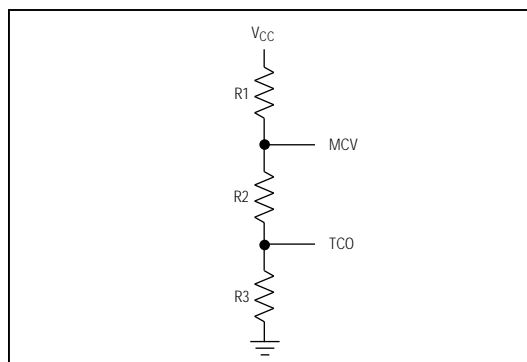
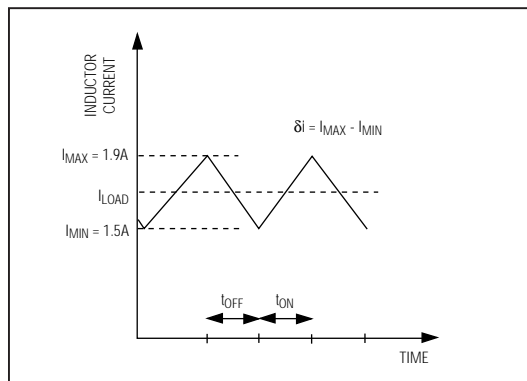

Figure 9. Resistor Configuration for MCV and TCO
Figure 10. Inductor-Current Waveform in Continuous-Conduction Mode
**7) Select Maximum Cell Voltage (MCV) and Temperature Cutoff (TCO).** The MCV and TCO can be selected with a resistor-divider combination (Figure 9). In our example, TCO has been set to +10°C, which corresponds to a voltage of 1.72V at the TS pin. The MCV for most fast-charge batteries can be set to about 1.9V. To minimize the current load on  $V_{CC}$ , choose  $R_1$  in the range of 20k $\Omega$  to 200k $\Omega$ . In this example, choose  $R_1 = 60.4k\Omega$ , then calculate  $R_3$  and  $R_2$  as follows:
In order to provide high currents with minimum ripple, the device must function in the continuous-conduction mode. Figure 10 shows a current waveform of an inductor in the continuous-conduction mode (where the coil current never falls to zero).
The average load current ( $I_{LOAD}$ ) through the inductor must be 1.7A, so a peak current ( $I_{MAX}$ ) of 1.9A should give a fairly low ripple while keeping the inductor size minimal. This means that the total current change (Figure 10) across the inductor is  $\delta = 2 (1.9 - 1.7) = 0.4A$ .
The MAX2003/MAX2003A can use several other circuits to charge batteries. Figure 9 shows a circuit that uses a Darlington transistor to regulate the current a six-cell NiCd battery pack receives. Figure 10 shows a gated current-limited supply being used to charge a Duracell NiMH battery pack. Table 6 lists the external components used in these two application configurations.